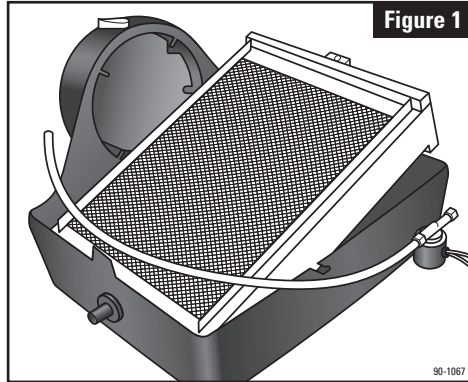

Figure 1
1. Press top & bottom tabs to remove cover (1). Pull feed tube (3) out of distribution tray (4). Remove Water Panel® Evaporator assembly. See **Figure 1**.
2. Humidifier is supplied with bypass duct connection on left. For right side bypass, swap location of drain spud (9) and cap (10). Twist to remove spud and cap.
4. Place humidifier base (2) in opening and secure with 6 screws in openings provided.
6. Insert Water Panel Evaporator assembly into base. Make sure bottom of scale control insert (6) is in drain spud. Snap top of evaporator assembly into base.